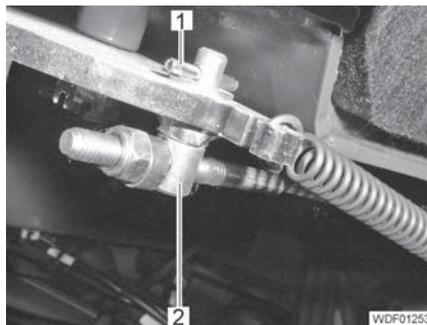

Fig. 239 Bowden cable on the hand-brake lever
- Drive out the hollow dowel pin (Fig. 239,1) on the handbrake lever.
- Remove the holder of the Bowden cable (Fig. 239,2).